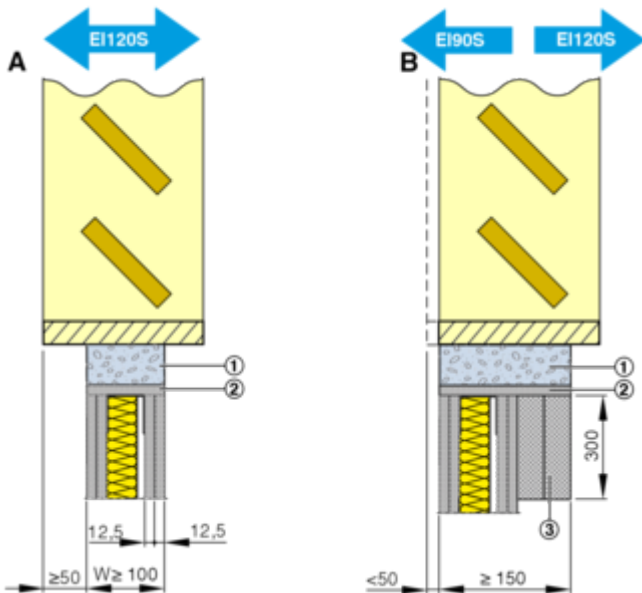

Fig. 40: EK-JZ Installation centred or flush on one side (overhang <50 mm)
Flush on one side (Fig. 40 /B)
- From a damper height of ≥ 1030 mm and a wall thickness <150 mm, provide a rear or shaft-side damper support (Fig. 40 /3), e.g. with PROMATECT LS35, L500, AD40.